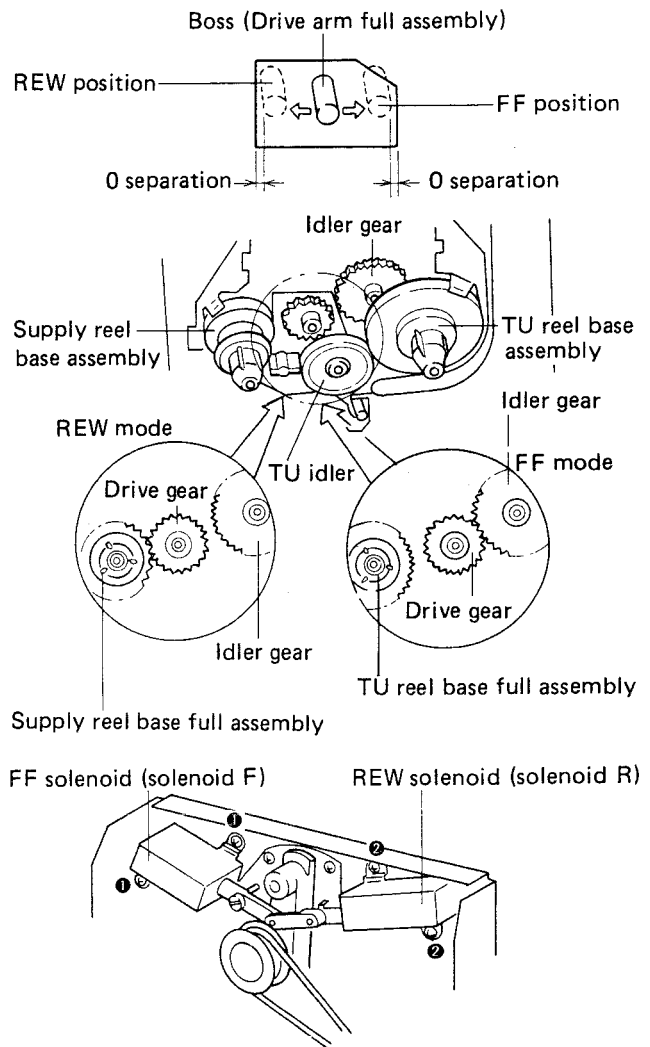

Fig. 7-4 FF (REW) solenoid adjustment
2. Loosen screws ❶ and adjust the FF solenoid mounting position so that the square hole of the reel base full assembly is flush against the boss of the driving arm full assembly (i.e. 0 separation) as shown in Fig. 7-4.
2. Loosen screws ❷ and adjust the REW solenoid mounting position so that the square hole of the reel base full assembly is flush against the boss of the driving arm full assembly (i.e. 0 separation) as shown in Fig. 7-4.